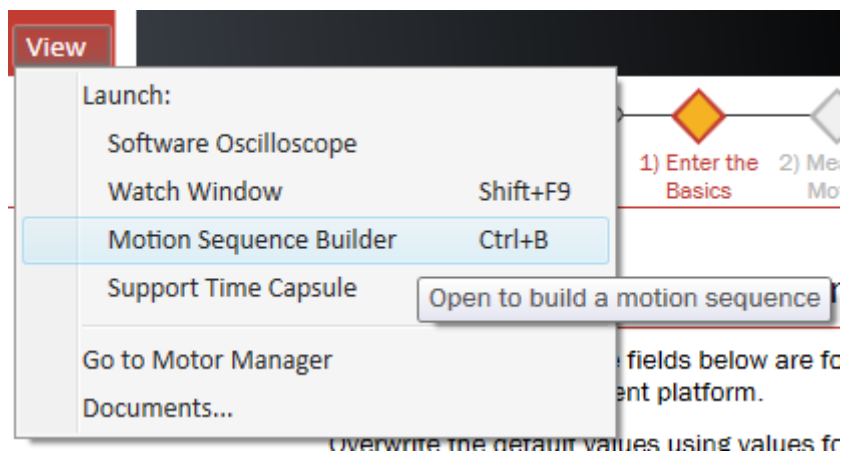

Figure 157. View menu with start Motion Sequence Builder command highlighted
- the KMS View Menu (Figure 157)